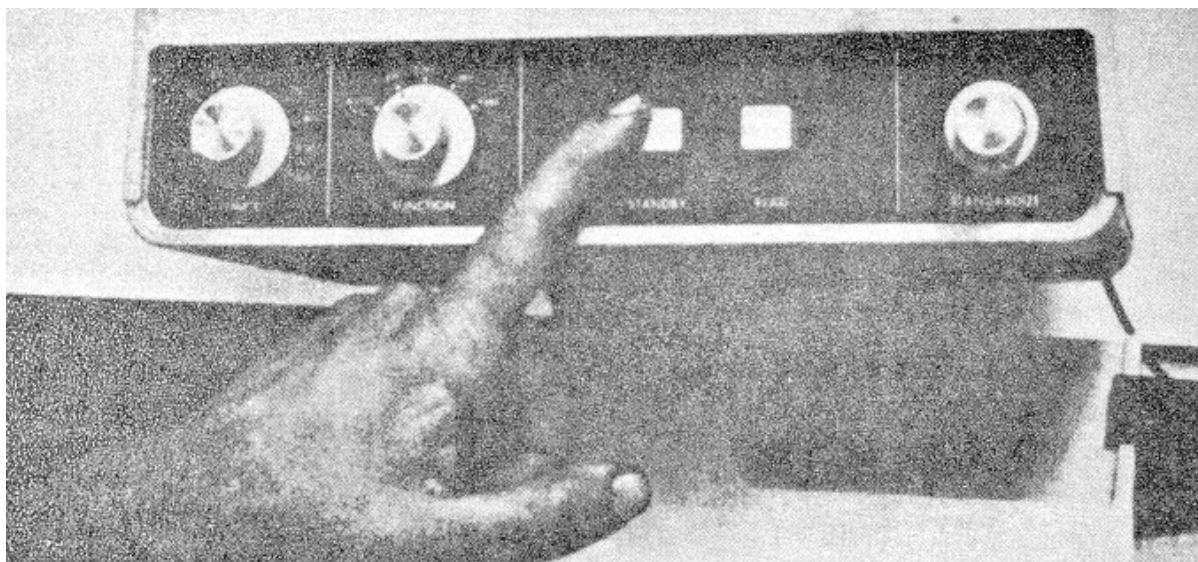

Figure 3
1. Depress the **STANDBY** button and set the **FUNCTION** switch to **pH**. (Figure 3.)